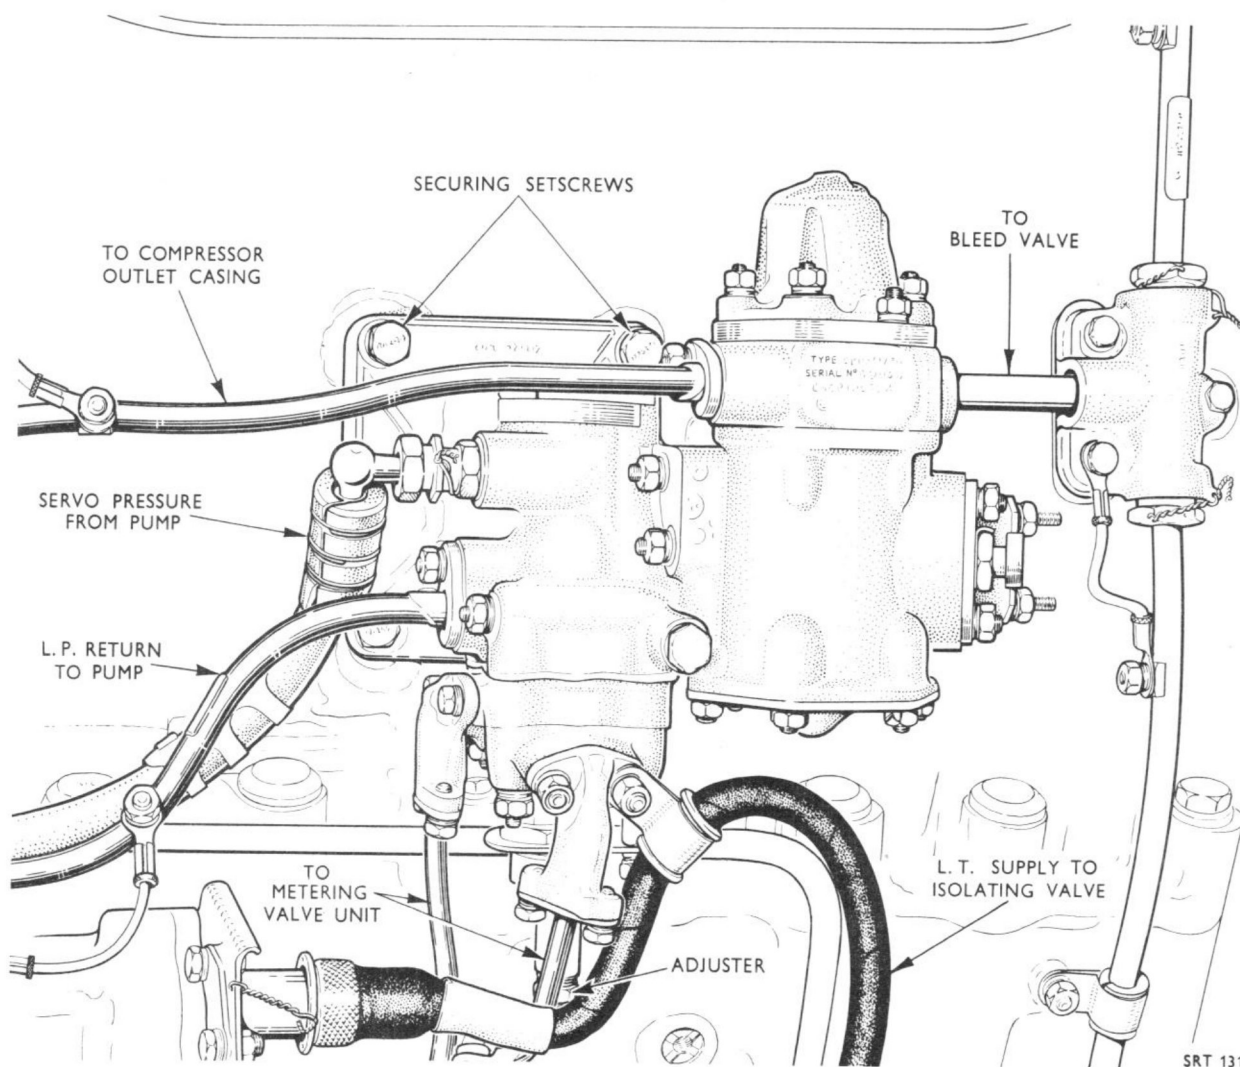

Fig. 6 Acceleration control unit
28. Disconnect the pipes from the unit (fig. 6); rigid pipes are to be disconnected at both ends and removed from the engine. The l.p. fuel return pipe may be disconnected from the a.c.u. and then pushed, a sufficient distance to clear the a.c.u., into the pump connection block. Remove the securing setscrews and detach the a.c.u. from the compressor casing.
32. To adjust engine acceleration time, insert the T-spanner into the slot of the 'clicker' adjuster in the base of the a.c.u. (fig.6). Turn the adjuster clockwise to decrease the time taken to accelerate, and vice versa. A turn through four clicks of the adjuster alters acceleration time by approximately 1 second.